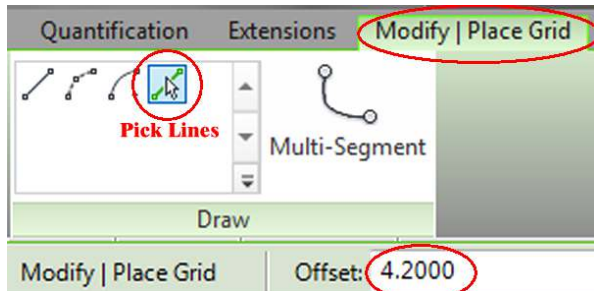

Fig. 1.17 – Pick Lines tool on Modify | Place Grid Contextual Tab
8. Click on Pick Lines (Fig. 1.17).